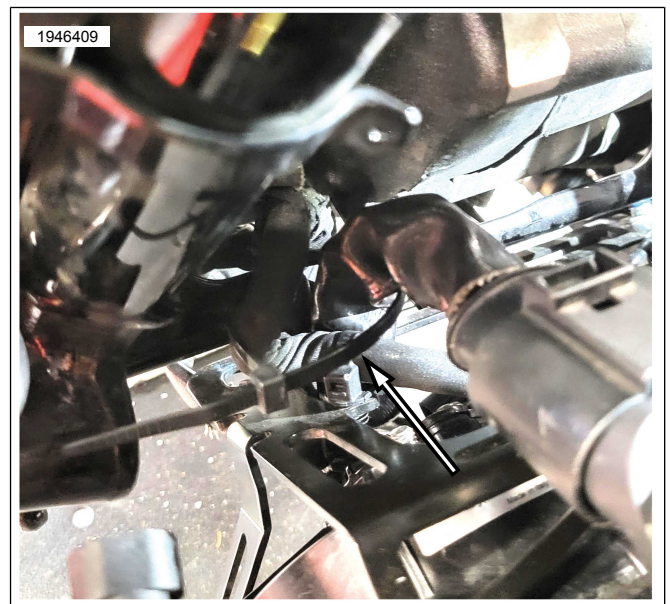
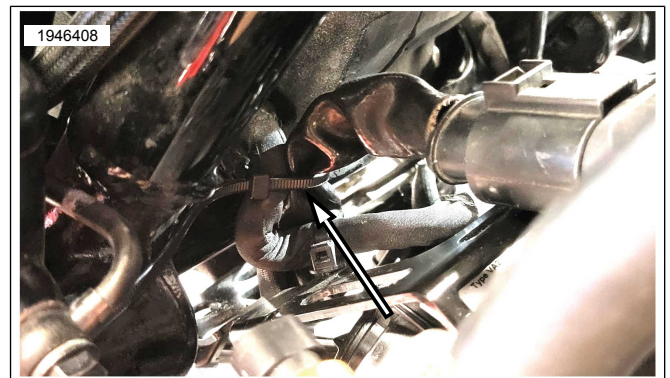

Figure 25. Loose Cable Strap
Figure 26. Tight Cable Strap
16. See Figure 25 and Figure 26. Secure voltage regulator harness into position with cable strap around regulator harness and coolant pump harness in location shown.